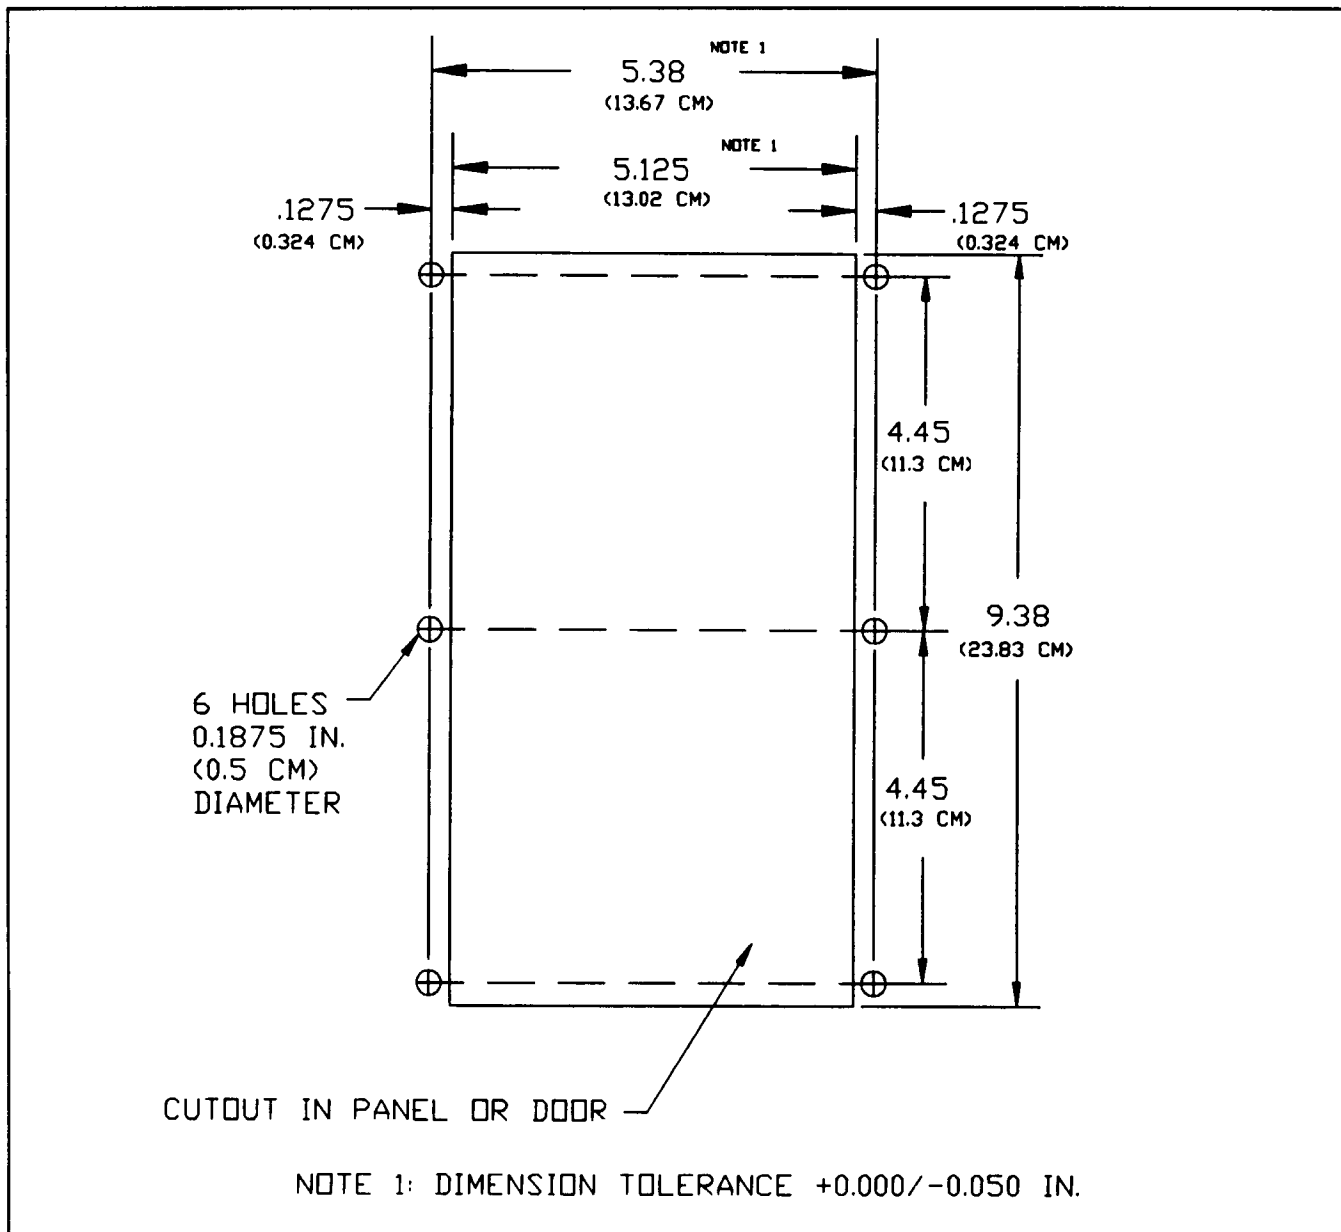
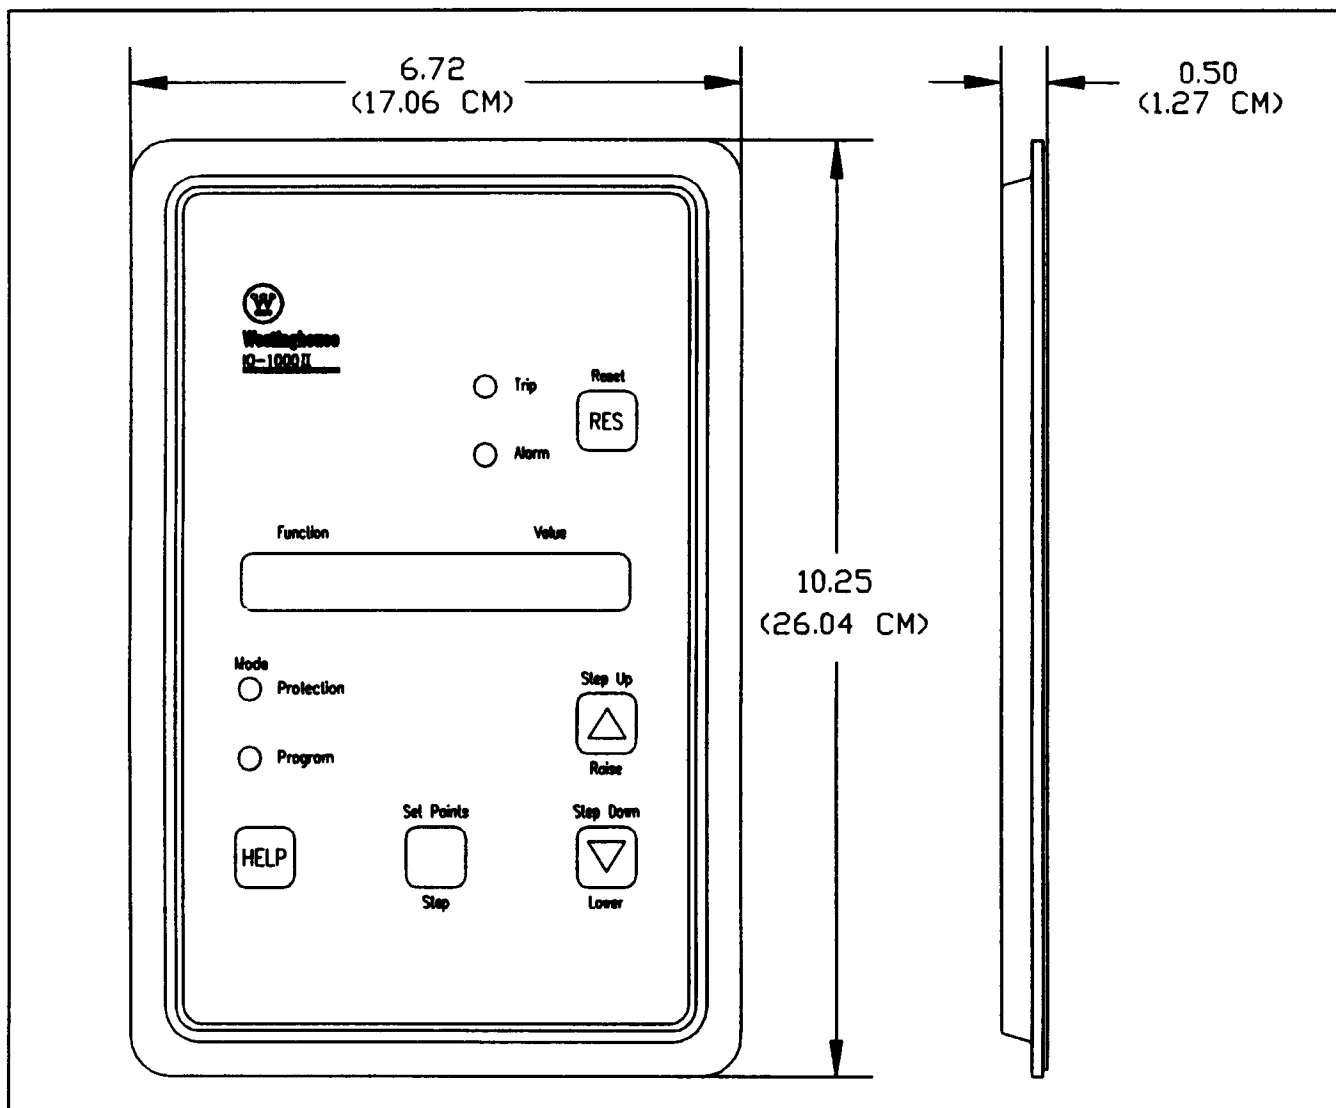
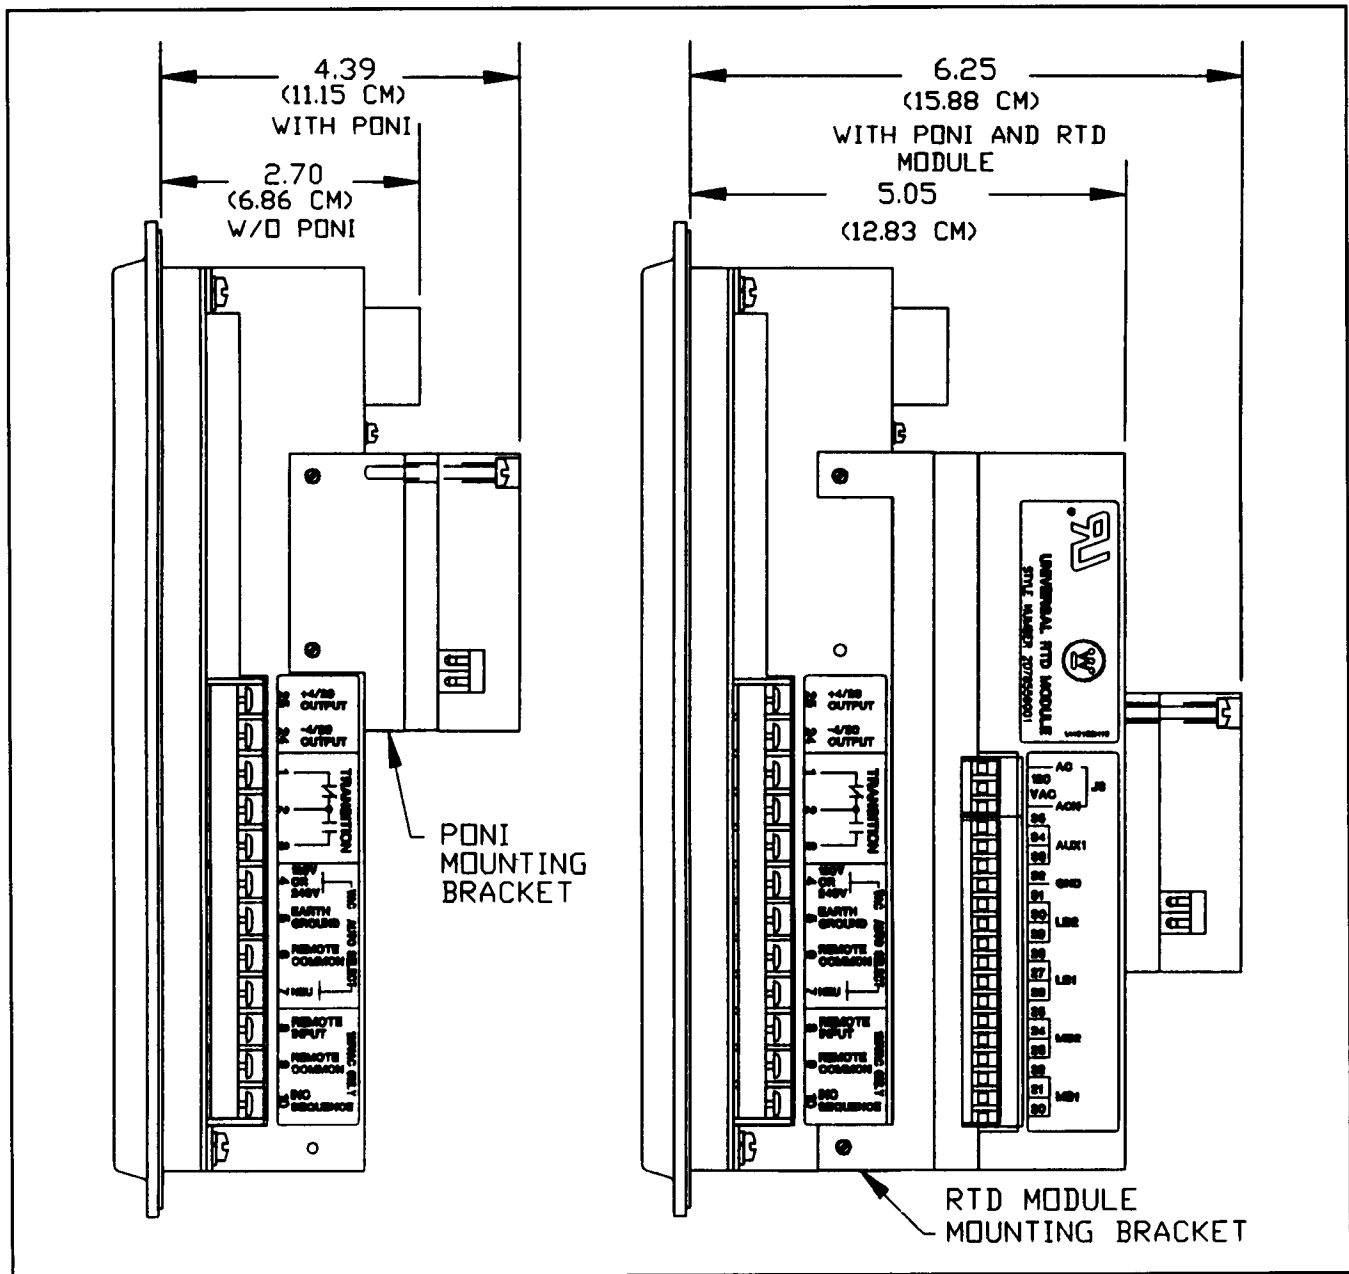

Figure 5.1 — IQ-1000 II Chassis Cutout Dimensions
Figure 5.2 — IQ-1000 II Faceplate Dimensions
Figure 5.3 — IQ-1000 II Chassis Depth Clearances
enclosure door. The dimensions for this cutout, along with the location of six required mounting holes, are shown in Figure 5.1. Before actually cutting the metal panel, be sure that the required three-dimensional clearances for the IQ-1000 II chassis allow mounting in the desired location. (Clearances are shown in Figure 5.2 and Figure 5.3).
The RTD Module may be mounted either on the back of the IQ-1000 II by using the RTD mounting bracket (supplied with the RTD Module) or mounted remotely from the unit. If the installation requires mounting the RTD Module to the IQ-1000 II, see Figure 5.3 for overall depth clearance requirements.
5.1.3 Communications Option — A Communications Module (PONI card) can be connected to the IQ-1000 II for transmission of all information from the device over an IMPACC network. A PONI mounted on an IQ-1000 II can be seen in Figure 5.3. Mounting and clearance information for the PONI card is contained in a separate Instruction Leaflet, IL 17361.